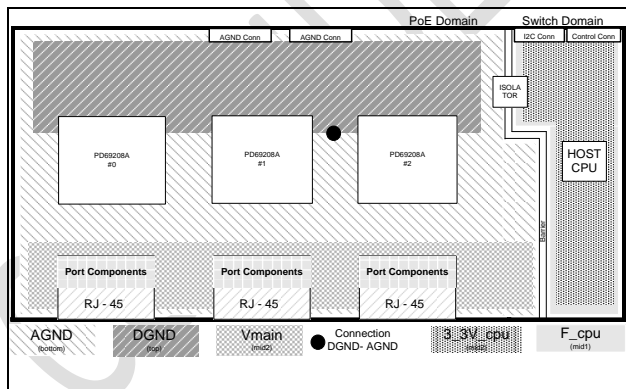

Figure 16: Ground and Power Planes
Ground planes are crucial for proper operation and should be designed in accordance with the following guidelines, as illustrated in Figure 16:
- ◆ To prevent ground loop currents, use only a single connection point between the digital and analog grounds as shown in Figure 16.